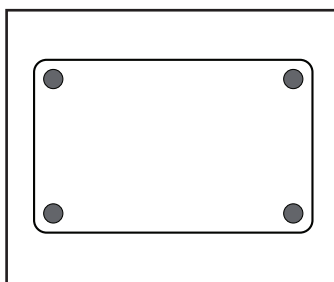

Figure 1
4. Adhere 4 felt pads to unit base to protect table top surface. Remove adhesive backing and apply one pad to each corner of unit base depending on preferred position in Step 3 (Figure 1).